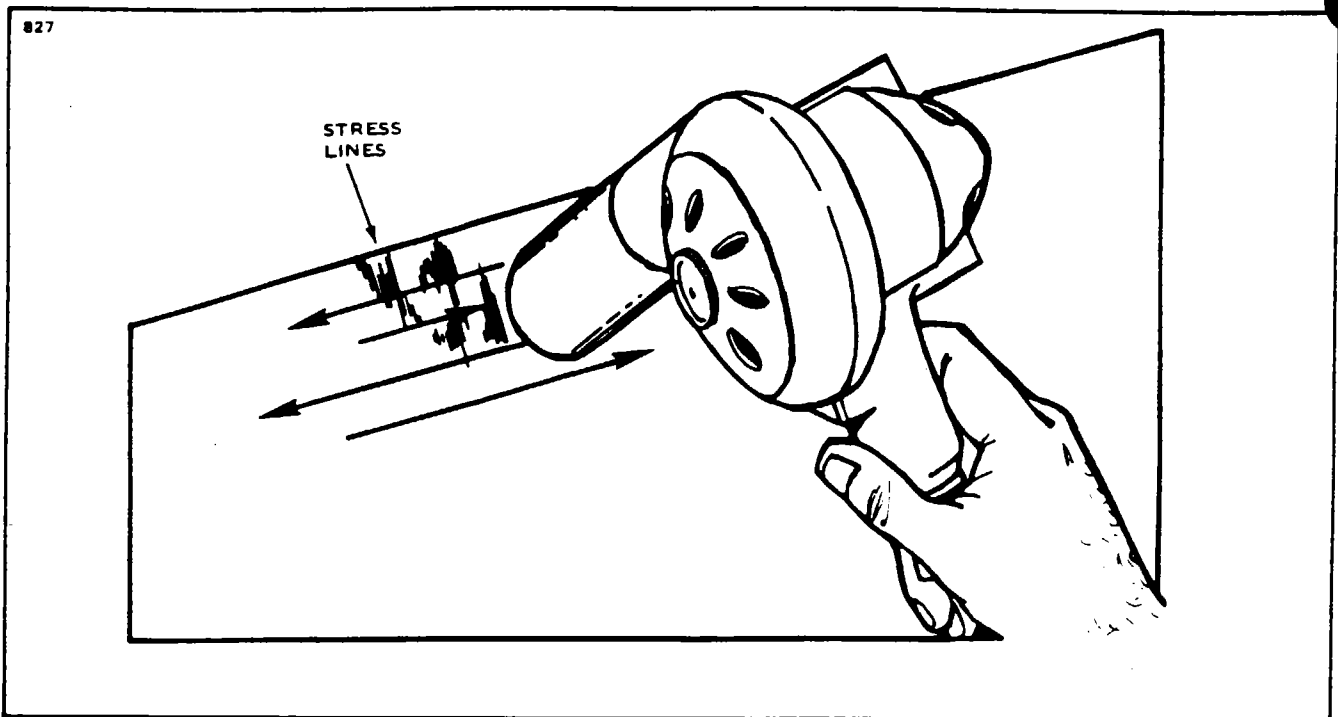

Figure 51-9. Repair of Stress Lines
6. Stress Lines: (Refer to Figure 51-9.)